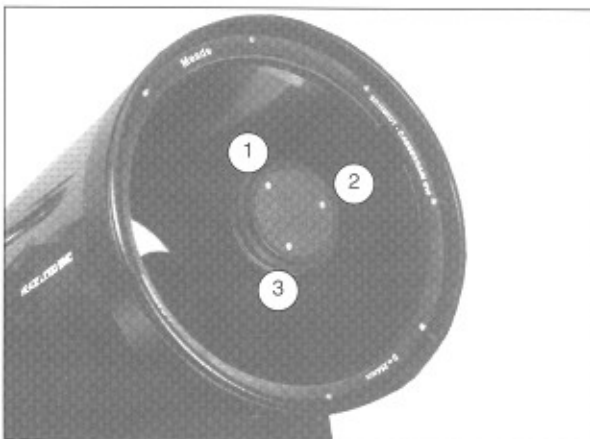

Fig. 26: Collimation of the Optical System. (1), (2), (3) Set screws for adjusting collimation.
- a. To make collimation easy, the only adjustments possible on the 8", 10", and 12" LX200 come from the three set screws (1, 2, and 3, Fig.26) located at the edge of the outer surface of the secondary mirror housing.